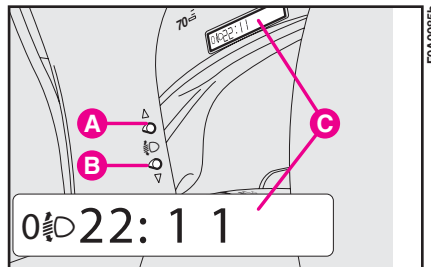

fig. 139
- hold button **B-fig. 139** pressed to increase by one position (e.g.: 0 → 1, 1 → 2, 2 → 3);